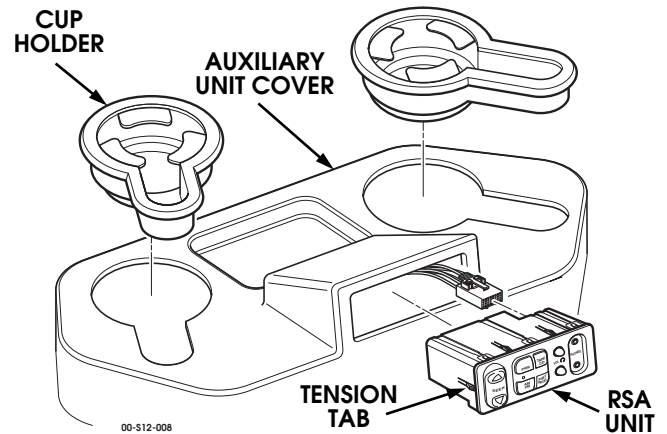

Figure 12-140: RSA Unit Replacement.
1. Remove the cup holders from the auxiliary A/C unit cover (Figure 12-140).